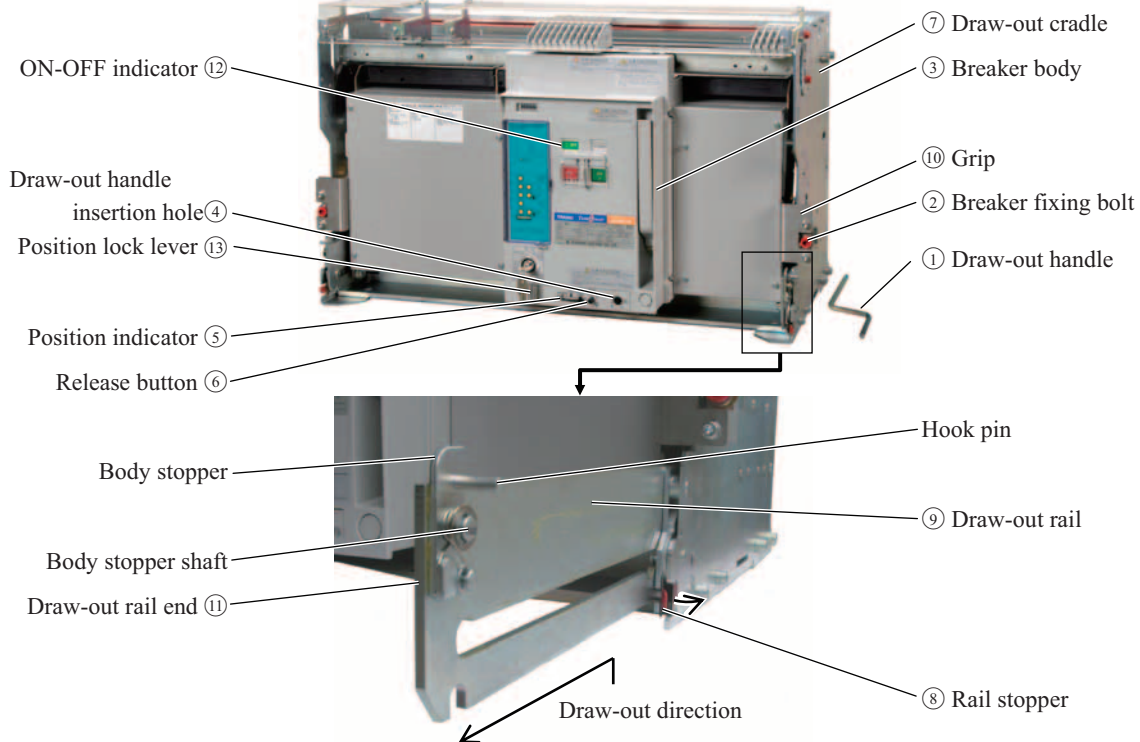

Fig. 26 Draw-out and insertion operation
- 1) Open the ACB. (If the ACB remains closed, the draw-out handle (Fig. 26 ①) cannot be inserted).
- 2) Loosen the breaker fixing bolts (Fig. 26 ②), if used, to unlock the breaker body (Fig. 26 ③).
- 3) Unlock the position lock lever (Fig. 26 ⑬) if locked. See section 4-5.
- 4) Insert the draw-out handle into the draw-out handle insertion hole (Fig. 26 ④). And slowly turn counterclockwise until the handle cannot be turned. The position indicator (Fig. 26 ⑤) shows “TEST”.
- 2) Press the release button (Fig. 26 ⑥). The release button will be locked depressed.
- 3) Unlock the position lock lever (Fig. 26 ⑭) if locked. See section 4-5.
- 4) Insert the draw-out handle into the draw-out handle insertion hole (Fig. 26 ④). And slowly turn counterclockwise until a freewheeling sound is heard. The position indicator (Fig. 26 ⑤) shows “ISOLATED”. Turning the draw-out handle will unlock the release button.
- 1) Make sure the draw-out cradle (Fig. 26 ⑦) is secured with mounting screws.
- 2) Unlock the position lock lever (Fig. 26 ⑭) if locked. See section 4-5.
- 3) Push the rail stoppers (Fig. 26 ⑧) outward on both sides of the draw-out cradle to unlock the draw-out rail (Fig. 26 ⑨), and then uphold and pull out the rail until it stops. The draw-out rail will be locked again by the stoppers. (The breaker body cannot be drawn out unless the rail is locked).
- 4) Holding both the grips (Fig. 26 ⑩), draw out the breaker body until it stops.
- If the ACB is equipped with the communication terminal block, pull out the hand connector (Fig. 26 ⑮) from the communication terminal block while drawing out the breaker body. Make sure the hand connector and control wire of the ACB are not snagged when drawing out the breaker body again.
- If the ACB is equipped with an optional auto-discharging device (Fig. 26 ⑪), the closing springs of the ACB will be automatically discharged with a mechanical sound. This sound does not mean a malfunction.
- 5) Use an optional lifter or lifting plate to transfer the breaker body (Fig. 26 ③) to a safe place. Refer to section 2-1-2.
- 2) Push the rail stoppers (Fig. 26 ⑧) outward on both sides of the draw-out cradle to unlock the draw-out rail (Fig. 26 ⑨), and then uphold and pull out the rail until it stops. The draw-out rail will be locked again by the stoppers. (The breaker body (Fig. 26 ③) cannot be inserted unless the rail is locked).
- 4) Make sure the breaker fixing bolts (Fig. 26 ②), if fitted, are loosened and not arrest the breaker body.
- 5) Make sure the hand connector (Fig. 26 ⑮) of the communication terminal block, if fitted, is so positioned that it does not get caught between the breaker body and the draw-out cradle.
- 6) If the ACB has the breaker fixing bolts (Fig. 26 ②), make sure the bolts are loosened and, holding both the grips (Fig. 26 ⑩), firmly push the breaker body into the draw-out cradle.
- If the ACB is equipped with the communication terminal block, plug the hand connector (Fig. 26 ⑮) into the communication terminal block while pushing the breaker body into the draw-out cradle. Make sure the hand connector and control wire of the ACB are not snagged when pushing the breaker body into the draw-out cradle.
- 7) Push the rail stoppers (Fig. 26 ⑧) outward on both sides of the draw-out cradle (Fig. 26 ⑫) to unlock the draw-out rail, and then push the rail ends to insert the rail until it stops. The draw-out rail will be locked again by the stoppers.
- 1) Make sure the ON-OFF indicator (Fig. 26 ⑬) shows “OFF”. (If the ACB remains closed, the draw-out handle (Fig. 26 ①) cannot be inserted).
- 3) Insert the draw-out handle into the draw-out handle insertion hole (Fig. 26 ④). And slowly turn clockwise until the handle cannot be turned. The position indicator (Fig. 26 ⑤) shows “TEST”. When you turn the draw-out handle clockwise, you can insert the body smoothly by using a hand for holding ACB body until it moves.
- 3) Press the release button (Fig. 26 ⑥). The release button will be locked depressed.
- 4) Insert the draw-out handle into the draw-out handle insertion hole (Fig. 26 ④). And turn clockwise until the handle cannot be turned with its max. operating torque (14.7 N-m). The position indicator (Fig. 26 ⑤) shows “CONN.” Turning the draw-out handle will unlock the release button.
- 6) Tighten the breaker fixing bolts (Fig. 26 ②), if used, to lock the breaker body.